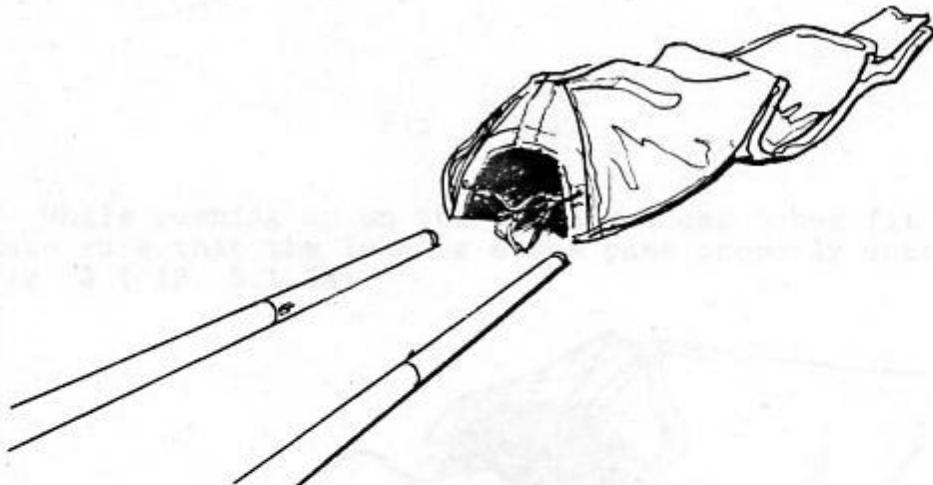

Fig. 3.1.10.
7. Lay the sail nose to the console ends (to the N3 tubes). Spread the sail (Fig. 3.1.10). Undo the sail-nose zipper.